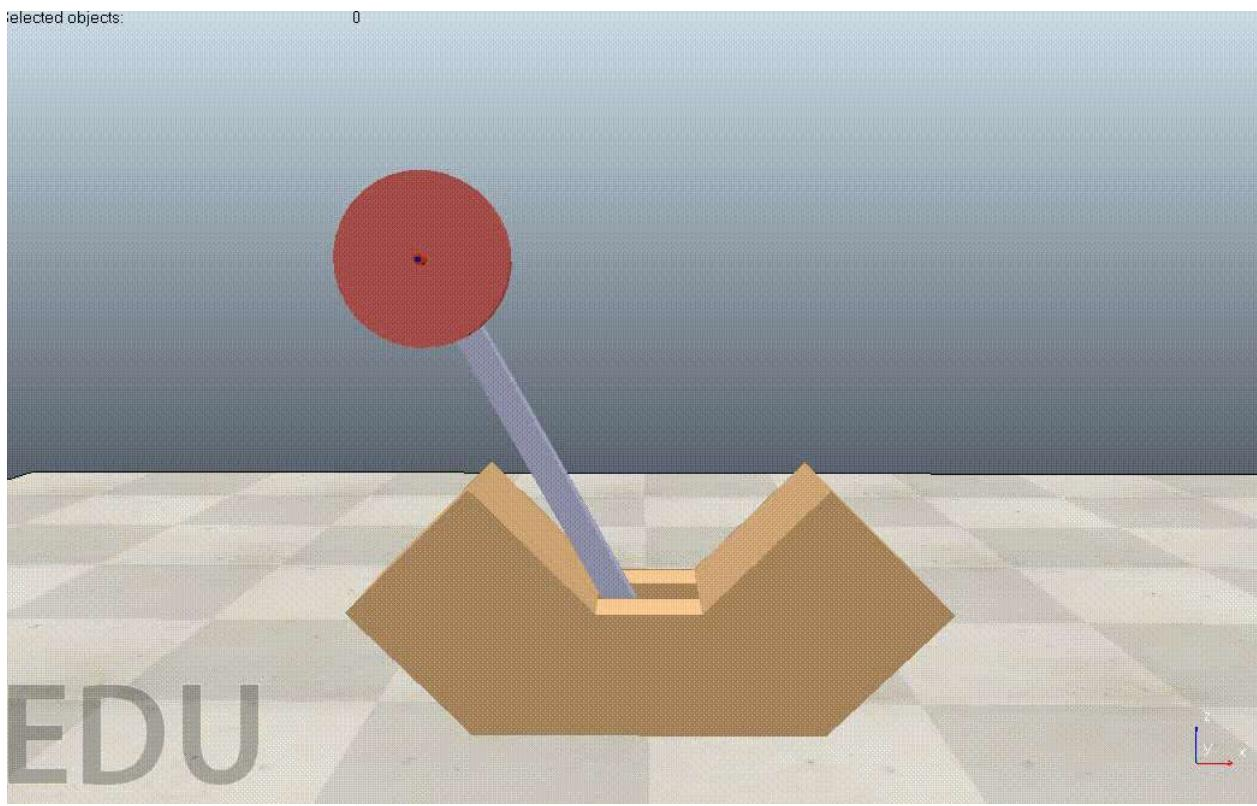

Figure 1: RW Pendulum balancing at unstable equilibrium point
- You'll find a hierarchical tree structure as shown in Figure 1. The list of objects are given in Table 1.